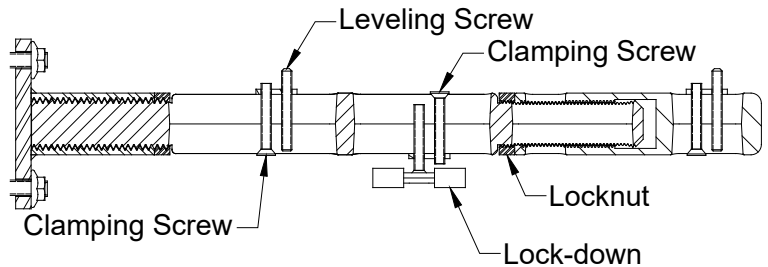

Fig. 9
9. Obtain locations of leveling screws and lock-down, provided by the lavatory manufacturer or the common fixture rough-in table, and adjust the leveling screws and lock-down hardware as needed. Loosen the clamping screws to adjust the washers for leveling screws and lock-down to desired locations then tighten. Adjust arm extension as required and tighten locknut against extension until snug. Ensure a minimum thread engagement of 1 inch. See Fig. 9